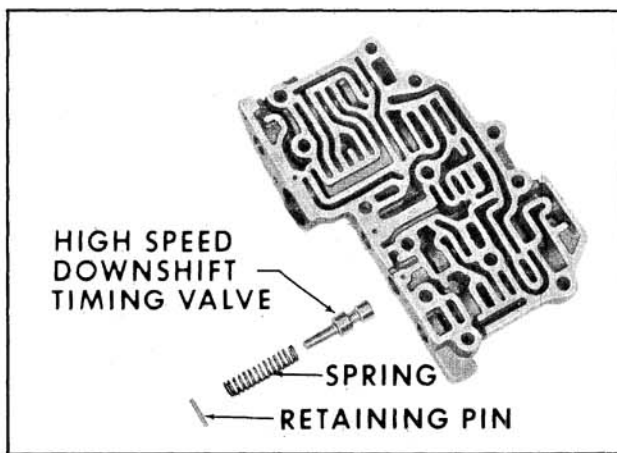

Fig. 6-398 Installing High Speed Downshift Timing Valve
4. Depress high speed downshift timing valve plug and remove pin by turning valve body over so pin will fall free. (Fig. 6-398)
1. Install high speed downshift timing valve, spring and plug. Depress plug with finger and install retaining pin. (Fig. 6-398)